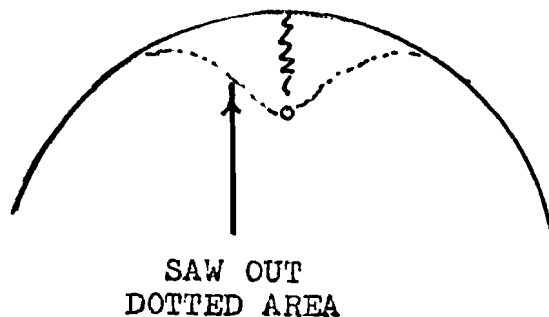

Figure 91
2. Saw away the portion as in Figure 91.